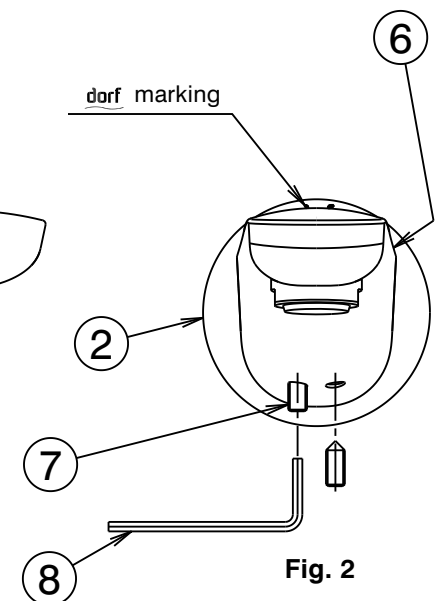

Fig. 2
- 1) Check that threaded nipple (1) is the correct length, as shown. Cut to length if required ensuring end face is square. Apply thread tape to the thread.
- 2) Slide brass washer (3) followed by cover plate (2) onto plain diameter of adaptor (4), as shown. Screw adaptor (4) onto threaded nipple (1) until cover plate (2) is held securely against wall/tile face and the 'dorf' marking is at the top, as shown in Fig. 2. DO NOT OVERTIGHTEN. Apply suitable lubricant to 'O'Rings (5) on adaptor (4).